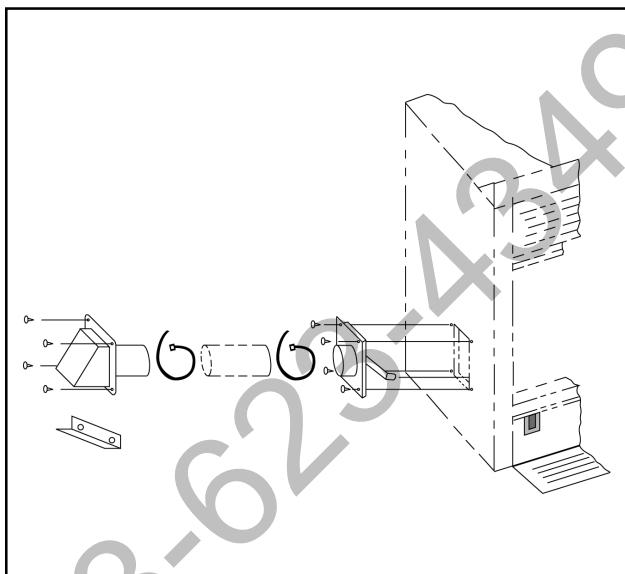

Figure 10 - Air Kit Installation
- a. The air kit can be installed only on the left side of the appliance. See Figures 10 and 11 for correct orientation of the door assembly and handle. The hinge will be toward the back of the appliance.